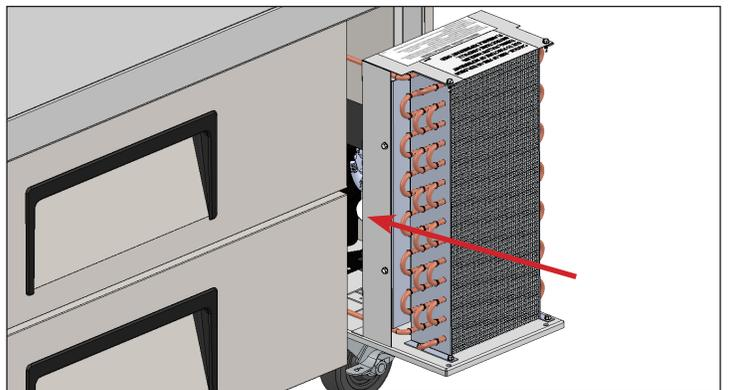

Fig. 6. Carefully slide the condensing unit back into position and reinstall the bolts.
9. Reinstall the coil brackets (if applicable). Then carefully slide the compressor assembly back into position and bolt it in place. See fig. 6.